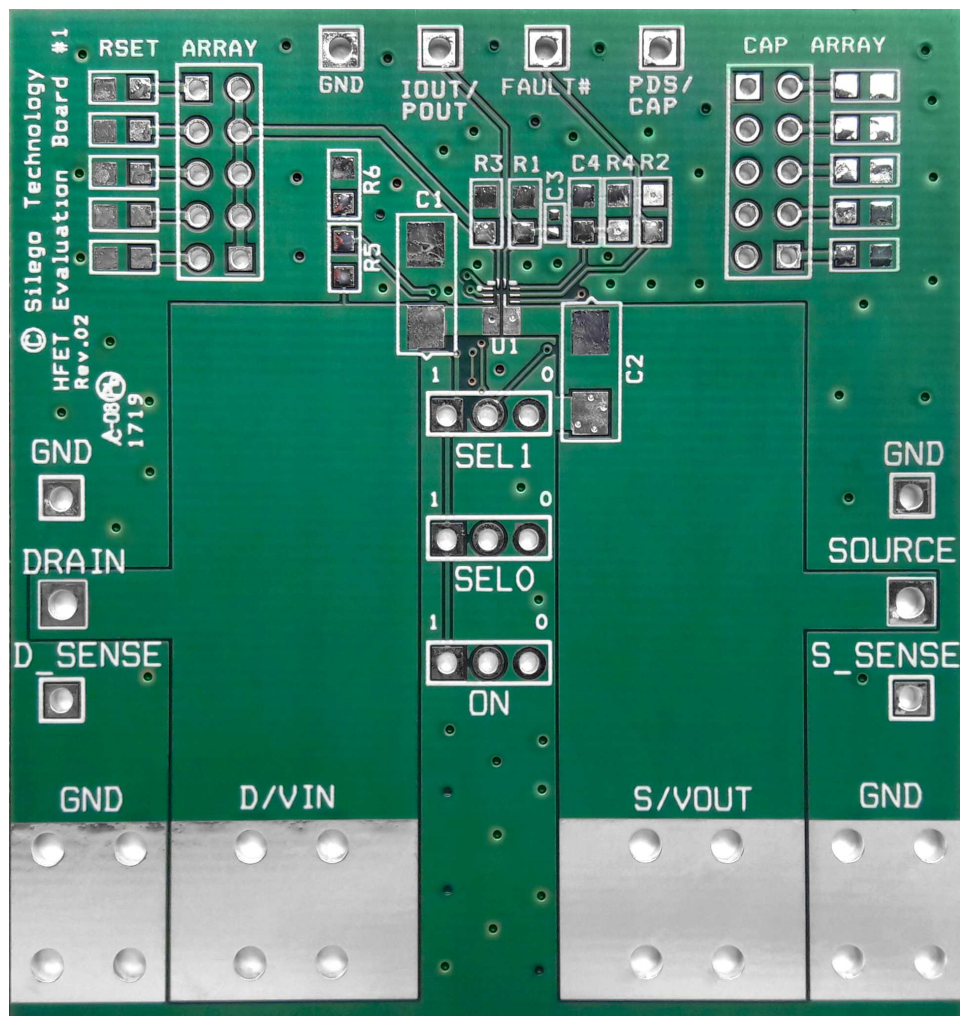

Figure 28. SLG59H1005V Evaluation Board
1. Since the VIN and VOUT pins dissipate most of the heat generated during high-load current operation, it is highly recommended to make power traces as short, direct, and wide as possible. A good practice is to make power traces with absolute minimum widths of 15 mils (0.381 mm) per Ampere. A representative layout, shown in Figure 28, illustrates proper techniques for heat to transfer as efficiently as possible out of the device;
A High Voltage GreenFET Evaluation Board for SLG59H1005V is designed according to the statements above and is illustrated on Figure 28. Please note that evaluation board has D_Sense and S_Sense pads. They cannot carry high currents and dedicated only for RDS_{ON} evaluation.